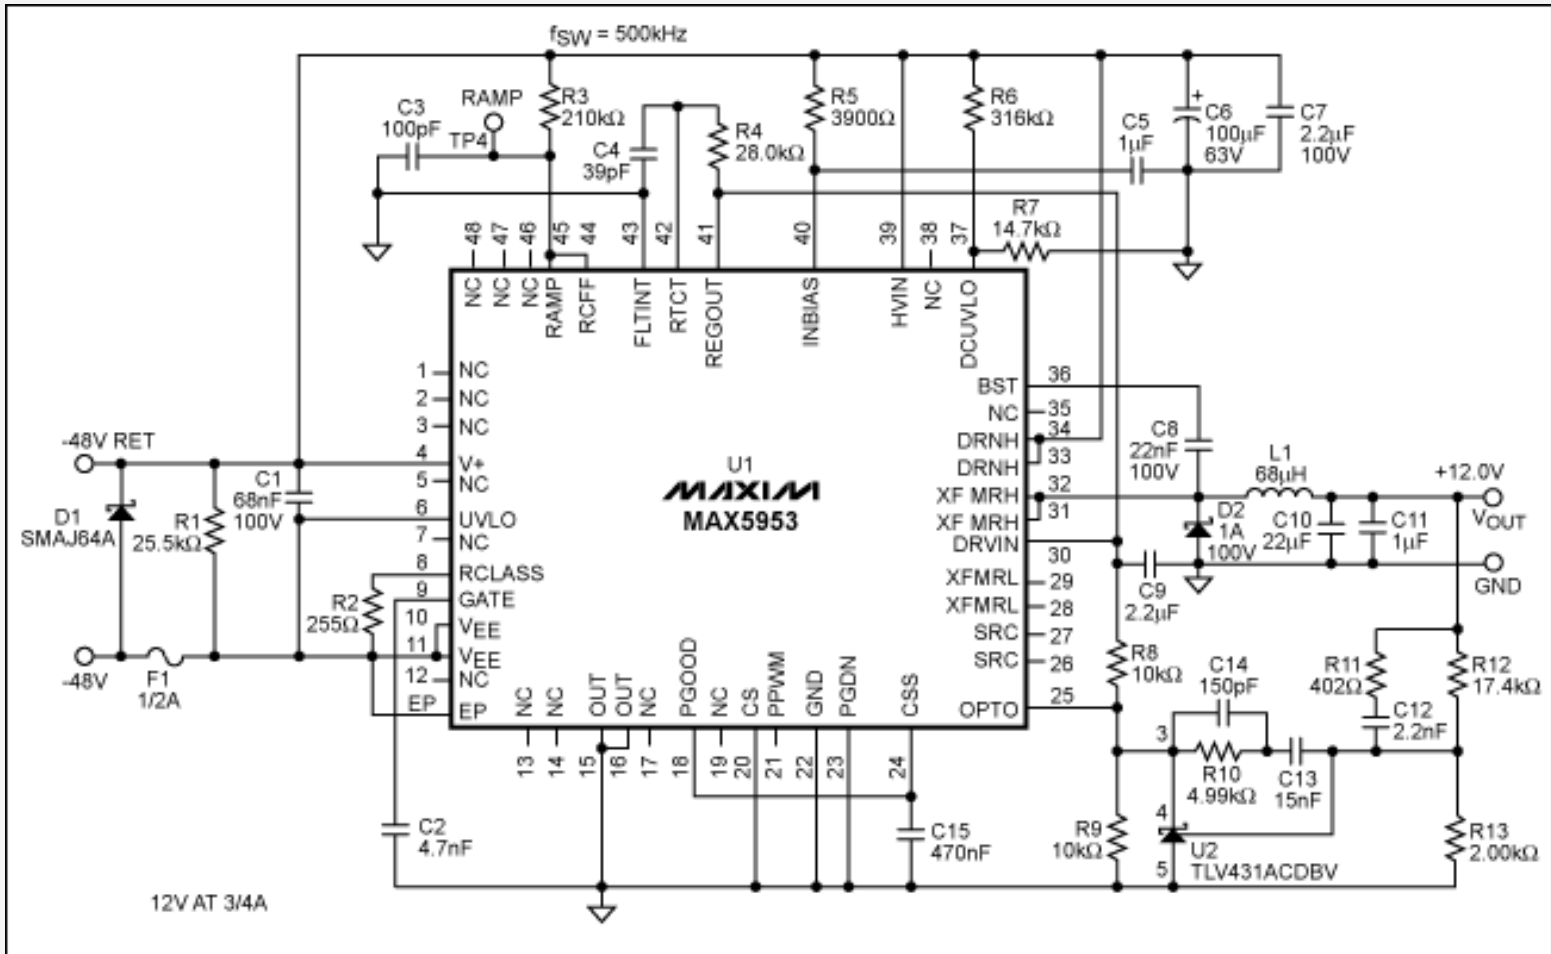

Figure 1. Schematic of the PD with a 12V, 0.85A buck converter.
The circuit of **Figure 1** is the complete powered device (PD) with a DC-DC converter providing up to 0.85A at 12V. Although the MAX5953A contains both high- and low-side switching FETs, the internal low-side FET cannot be configured as a synchronous catch diode. Consequently, the buck converter uses only the high-side FET. Because the current-limiting circuit within the IC operates using voltage-drop information derived from current flow through the low-side FET, this circuit contains no automatic current limiting. The included fuse, F1, provides short-circuit protection at startup.